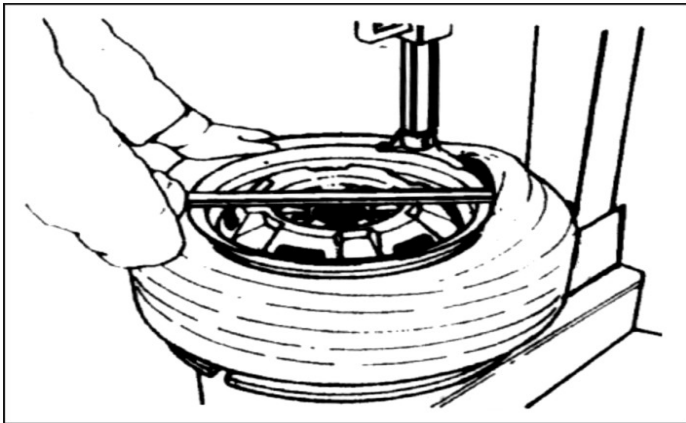
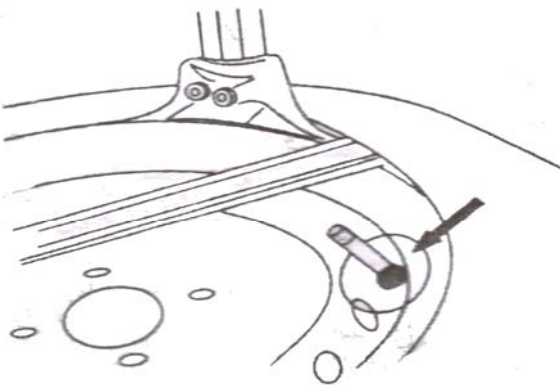

FIG23
FIG24
4.1.4 Use the crowbar to detach until the lip to the hump of the demount tool (fig23). Step the turntable rotation ped(fig 2-8) to rotate the turntable clockwise until the rim of the wheel fall off. If handling the tube tire, to avoid the damage on the tube, you should keep the nozzle of the tire 10cm from the right side of the demount tool See fig24.